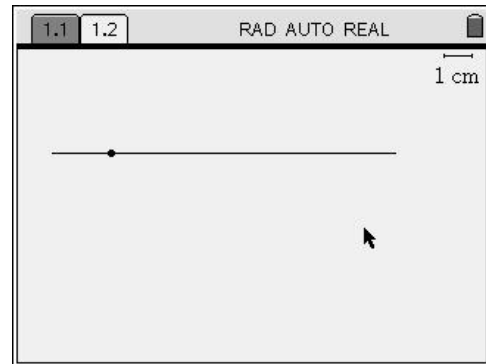

Figure 5
5. Draw a horizontal line about 1/3 of the way from the top. Press **enter** once to begin the line and **enter** again to complete the line. Press **esc** to put the line tool away. (Figure 5)